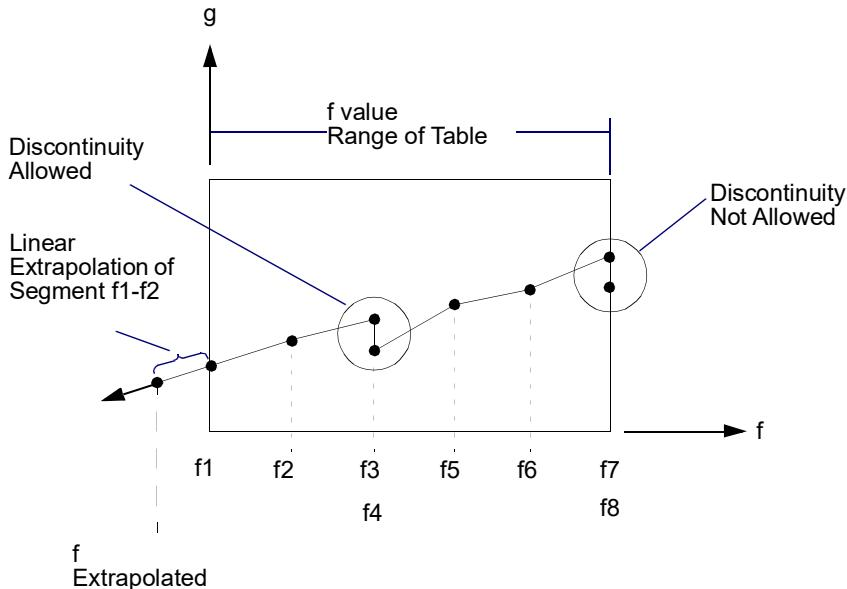

Figure 9-159 Example of Table Extrapolation and Discontinuity
3. Discontinuities may be specified between any two points except the two starting points or two end points. For example, in Figure 9-159 discontinuities are allowed only between points f2 through f7. Also, if g is evaluated at a discontinuity, then the average value of g is used. In Figure 9-159, the value of g at f = f3 is $g = (g_3 + g_4)/2$.
where f is input to the table and g is returned. The table look-up $g_T(f)$ is performed using linear interpolation within the table and linear extrapolation outside the table using the last two end points. See Figure 9-159. No warning messages are issued if table data is input incorrectly. See Remark 11.